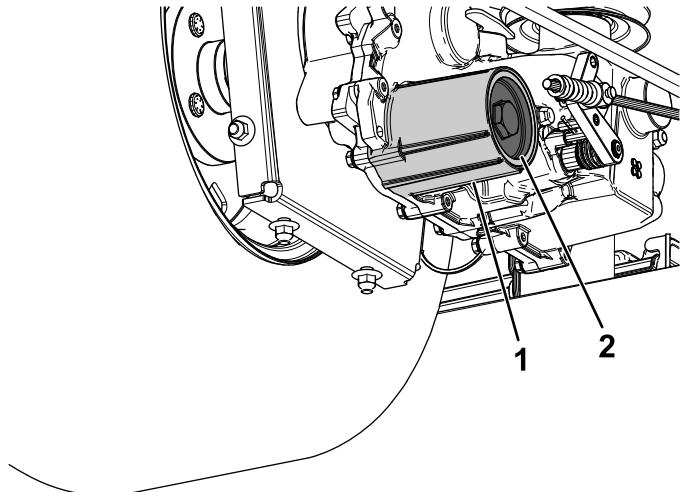

Figure 82
7. Remove the hydraulic-fluid filter cover from the transaxle to drain the fluid (Figure 82).